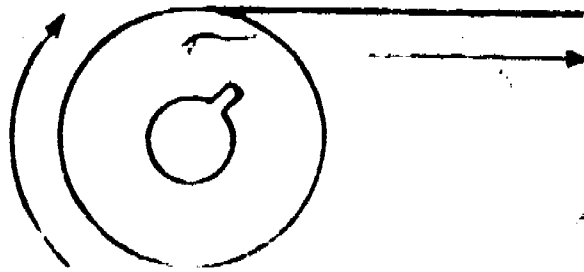

Figure 18. Bobbin Pulling Clockwise.
k. Place the bobbin in the case so that the thread will unwind clockwise as the bobbin operates. The thread will unwind from the bobbin as shown in figure 18, when placed in the case.